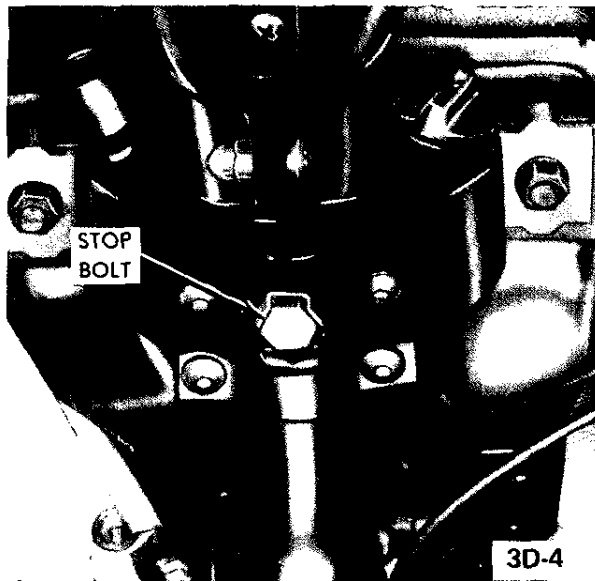

Figure 3D-4 Stop Bolt
4. Remove stop bolt (see Figure 3D-4) from underside of steering column (secures steering shaft bushing to mast jacket), and pull steering wheel rearward approximately three inches.